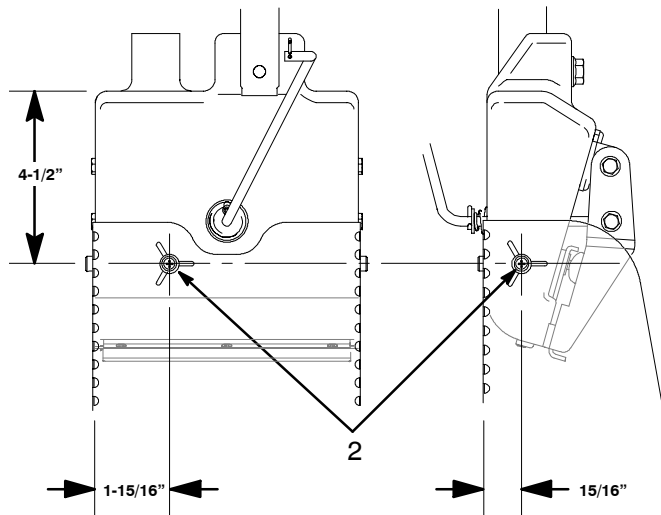

Fig. 1
2. Fig. 1. Measure and install screws (2) on plastic 6-in. models.